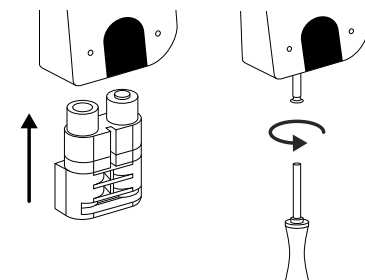

Fig. 5
- 5 Insert the battery compartment back into the housing and screw it tight (Fig. 5).